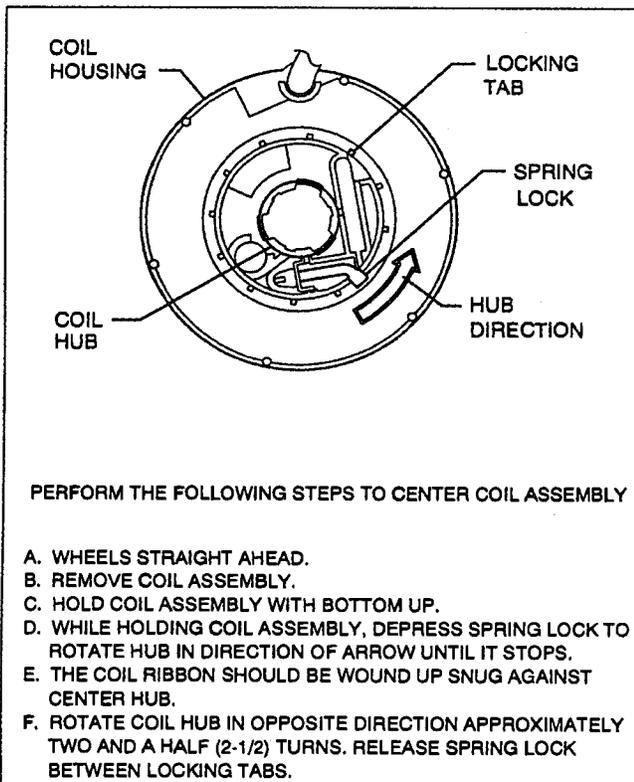
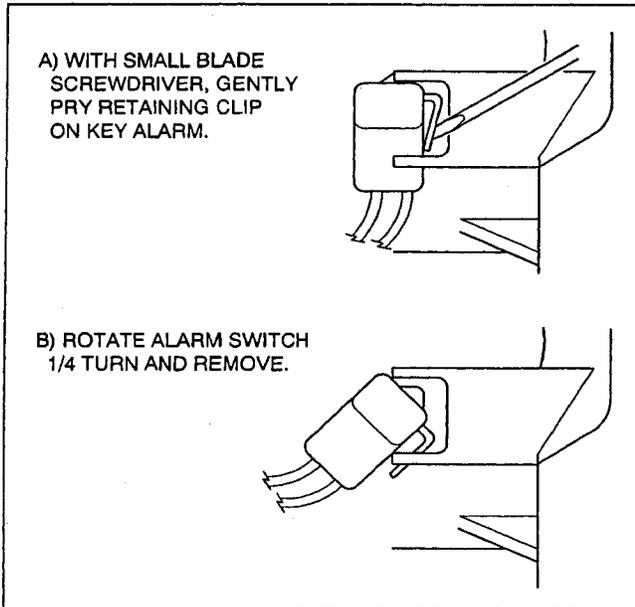

Figure 7 - Centering Coil Assembly
Figure 9 - Removing Alarm Switch
- 2) Centering spring is pushed down, letting hub rotate while coil (2) is removed from steering column. (If this occurs, refer to Figure 7 to center coil)
- 2) Centering spring is pushed down, letting hub rotate while coil (2) is removed from steering column. (If this occurs, refer to Figure 7 to center coil).
3. Retaining ring (30).
4. Coil assembly (2).
5. Wave washer (3).
6. Shaft lock retaining ring (4) using J 23653-SIR to push down shaft lock shield assembly (5).
- Dispose of ring (4).
7. Shaft lock shield assembly (5).
8. Turn signal cancel cam assembly (6).
9. Park lock cable assembly (48) from lock module assembly (15).
- Insert small blade screwdriver into slot in module assembly (15). Push against locking tab on end of cable assembly (48) and remove.
10. Key alarm switch from module assembly (15). (See Figure 9)
11. Two tapping screws (18).
12. Ignition & key alarm switch assembly (19).
- Let switch (19) hang freely.
- NOTICE:** Lock bolt assembly (11) is under slight spring tension from lock bolt spring (12). Hold lock bolt (11) in place while removing lock module assembly (15).
13. Three pan head tapping screws (13).
14. Lock module assembly (15) with upper shroud (10).